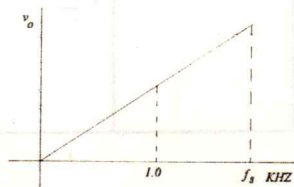

Fig.E.2.3 Output Voltage Versus Chopper frequency Characteristics.
11. Plot the V_o versus frequency characteristics. It will be as shown in Fig.E.2.3. In this the chopper is operated at variable switching frequency.